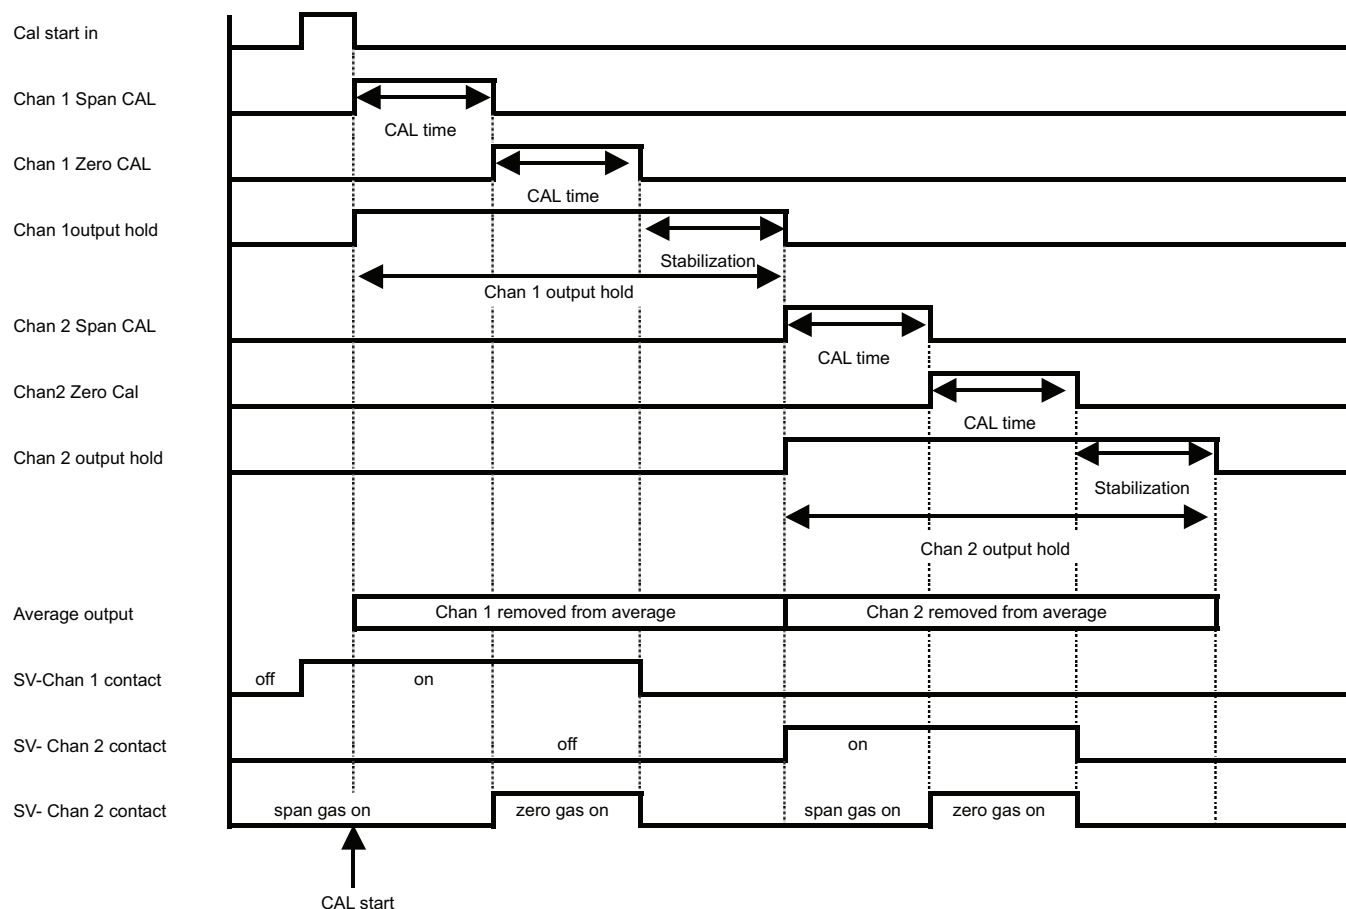

Figure 7.3
In addition to the above [Hold] output stabilization (settling) time, there is also a [Cal. Time] setting. This is the setting time from when calibration gas flow is started until calibration is performed. The same time setting is used for both Zero and Span calibration. Setting range is from 00 min. to 60 min 59sec. Calibration time and stabilization time, and analog output status are shown on the calibration timing chart of Figure 7.3 below. For solenoid valve (SV) piping and wiring refer to Section 5 of AV550G manual.